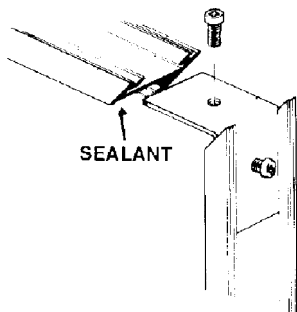

FIG. 2
B. Tap the corner cleats into both ends of each jamb and secure by tightening the screws. FIG. 2.